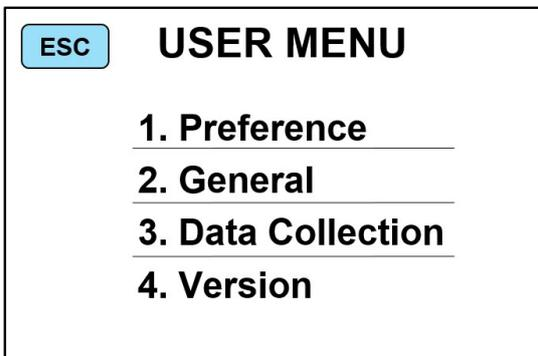
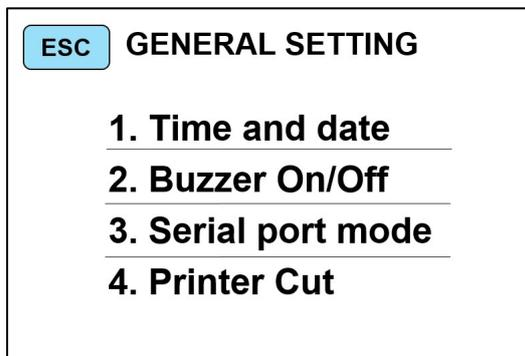

Figure 26
Figure 47
- 1) Press “” to enter the main interface of USER MENU, as shown in Figure 26. Press “2. General” to enter into the interface of “GENERAL SETTING” as shown in Figure 47.